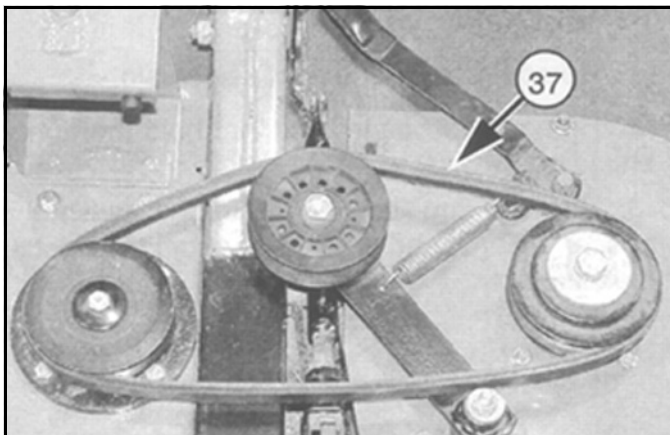

Figure 7. Drive Belt Installation
1. Install belt (37) over sheaves and idler as shown in Figure 7.